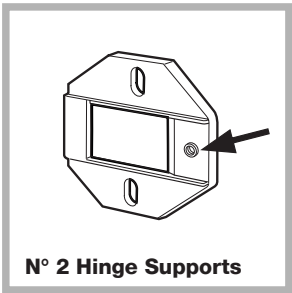

Fig. 1
- Fit the hinge supports to the appliance front panel, positioning the hole marked with an arrow in fig. 1 so that it is on the inner side of the front panel. Fit a spacer (fig. 4/B) between the surfaces using type **C** screws.